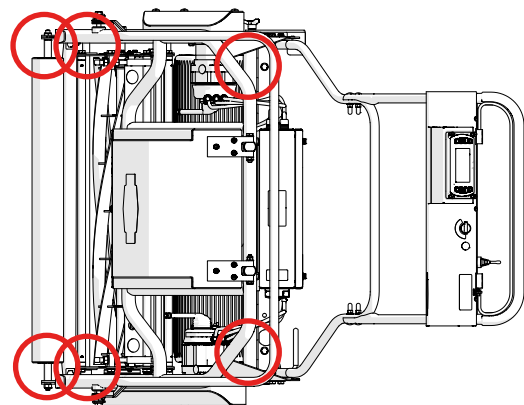

Fig.24. Anchor points for transport.
- Anchor the machine to the floor/pallet using suitably rated tie-down straps. Anchor points shown in Fig. 24.